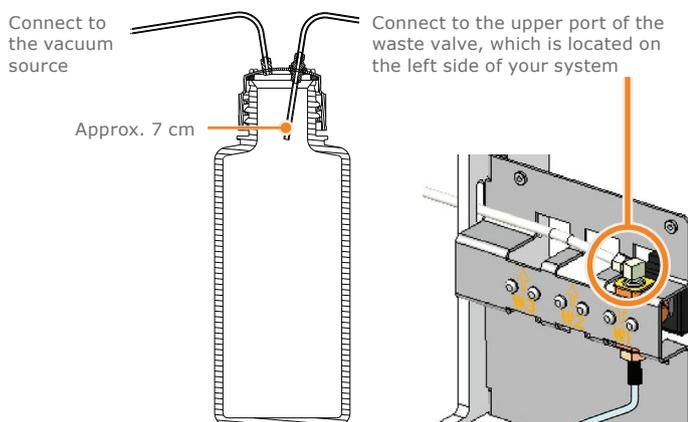

Figure 10. The waste setup
33. Place the waste reservoir on the side of the system and connect the waste outlet tube and vacuum to it; see Figure 10.
For instructions on how to set up the waste reservoir, see Figure 10 on page 5.